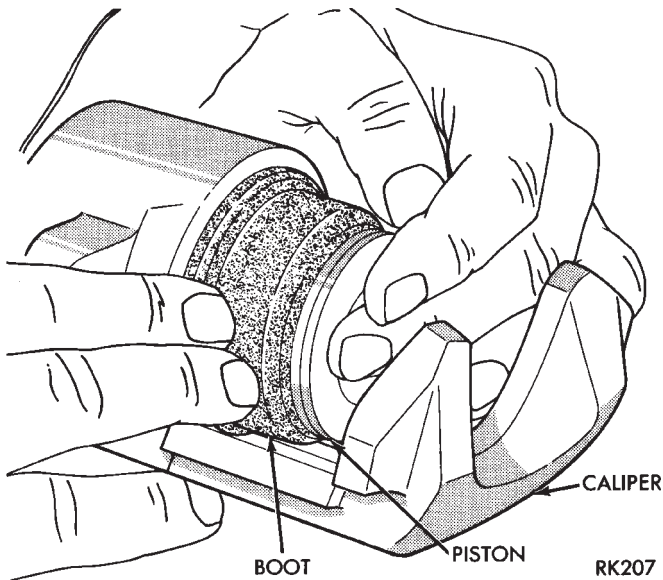

Fig. 2 Pushing Piston into Bore
(3) Coat new piston boot with clean brake fluid leaving a generous amount inside boot.
(4) Position dust boot over piston after coating with brake fluid.
(5) Install piston into caliper bore pushing it past the piston seal until it bottoms in the caliper bore (Fig. 2).